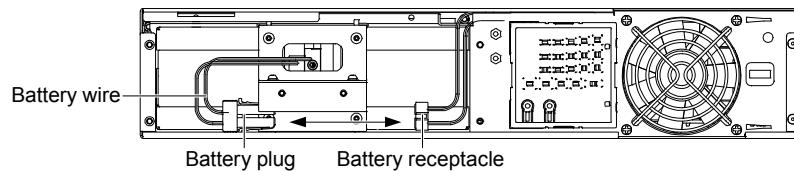

Figure 6-2 Disconnecting the battery plug and battery receptacle (front view)
Step 3: Gently pull the battery wire out and disconnect the battery plug and the battery receptacle, as shown in Figure 6-2.